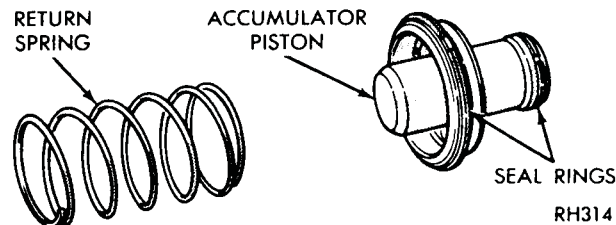

Fig. 50—Accumulator Piston and Spring
(1) Make sure combination back-up lamp/neutral start switch is not installed in transmission case.
(2) Place valve body manual lever in low position to move parking rod to rear position.
(3) Use a screwdriver to push park sprag into engagement with parking gear, turning output shaft to verify engagement. This will allow "knob" on end of parking rod to move past the sprag as valve body is installed.
(4) Install accumulator piston in the transmission case (Fig. 50).
(5) Place valve body in position, working park rod through opening and past sprag. Install retaining bolts finger tight.
(7) With neutral-starting switch installed, place manual lever in the neutral position. Shift valve body, if necessary, to center neutral finger over the neutral switch plunger. Snug bolts down evenly, then tighten to 105 in. lbs. (12 N·m).
(8) Connect lock-up solenoid wire to wiring connector at rear of transmission case, if so equipped.
(9) Install gearshift lever and tighten clamp bolt. Check lever shaft for binding in the case by moving